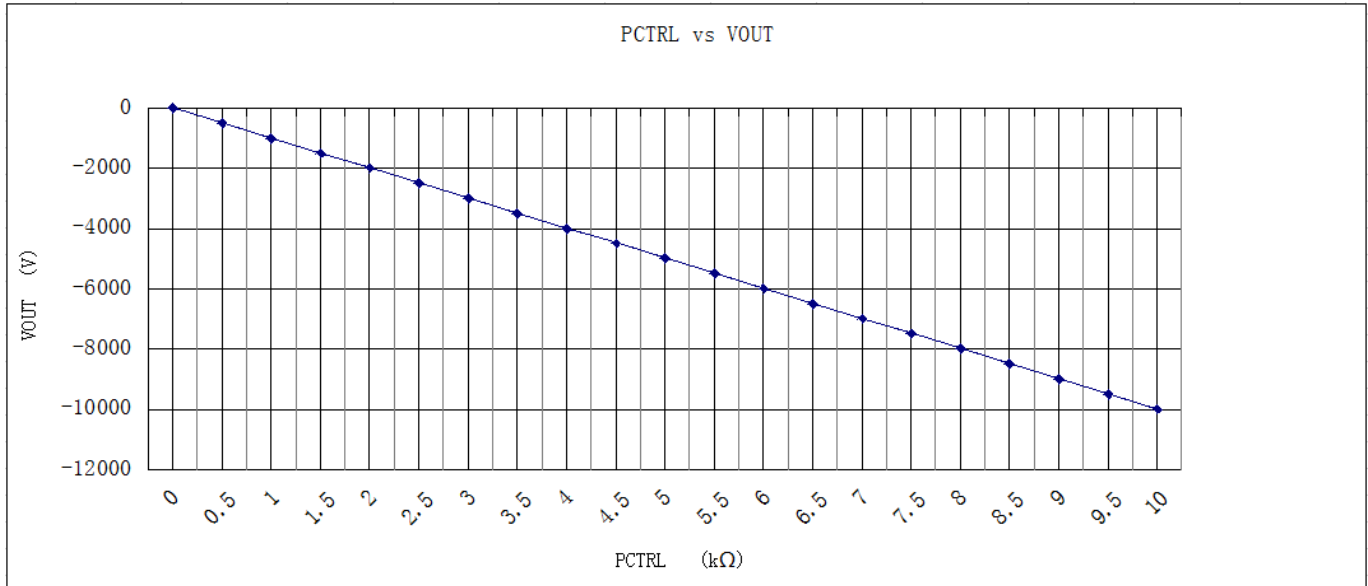

Figure 4. PCTRL vs. VOUT
5. HV adjustment: 10-turn potentiometer for adjusting output voltage. Rotate it clockwise to increase the output voltage, and the potentiometer resistance = the corresponding scale × 10Ω. For example, as Figure 4 shows, when the scale is 10, and the frame above the scale shows 1 (1kΩ), then the resistance = 10×10Ω+1kΩ=1.1kΩ, and the like.